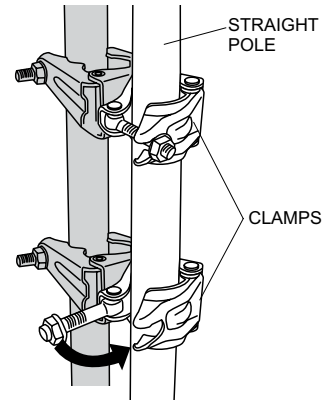

Figure 29. Straight Pole Attachment
4. Attach the straight pole to the clamps. Tighten locknuts on both clamps. See Figure 29.